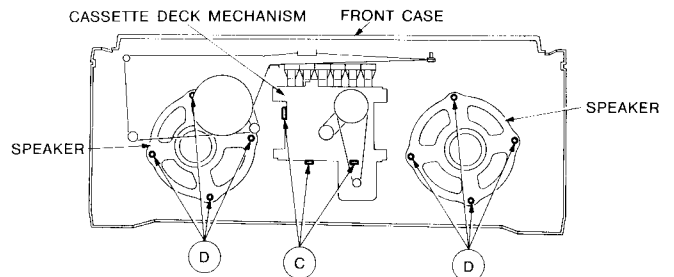

Fig. 5
5. Removing the cassette deck mechanism (Fig. 5)
6. Removing speakers (Fig. 5)